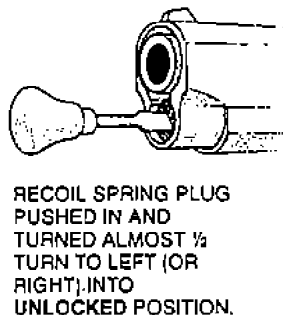

FIGURE 7—OFFICER'S ACP RECOIL SPRING PLUG LOCKED AND UNLOCKED
3. **(B)** Press down on recoil spring plug (located just below muzzle) and at same time rotate barrel bushing *counterclockwise* about $\frac{1}{4}$ turn (See Figure 6); then pull bushing forward and out. Using a screwdriver, push the recoil spring plug in and turn it about $\frac{1}{2}$ turn to left or right. (See Figure 7) Control the spring force as you carefully allow the plug and two recoil springs to extend out of the slide. Remove plug from springs. (See Figure 6)
Finally, while the pistol is still empty (unloaded), check that the recoil spring plug on the Officer's ACP is correctly seated and locked. To do so, see Figure 7 on page 34 and note that the recoil spring plug must be flush with, or protruding *only slightly* beyond, the face of the *barrel bushing* when the screwdriver slot is vertical. Double check by looking at the bottom of the slide, just in front of the receiver, to ensure the lug on the recoil spring plug is fully seated in its slot on the slide.